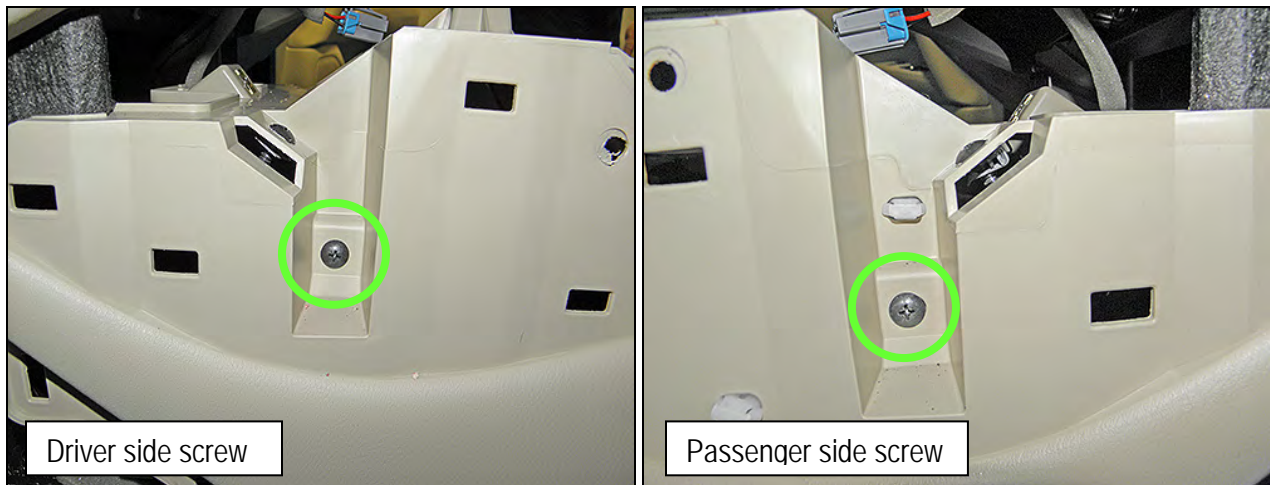

Figure 30B
12. Remove one mounting screw from the driver's side and one from the passenger side of the center console (Figure 30B)